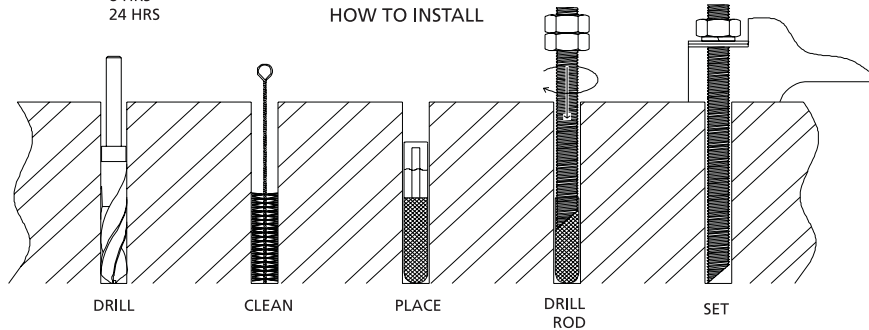

Figure 2-2 Anchor Stud Installation
- 4) Bolt the VMC directly to the pad through the .953" diameter holes that are provided in the base casting. The dimensions for the base mounting holes of all machines are in the VMC Specifications section. Anchors are to be installed as shown below in Figure 2-2. For high performance machines, the machine must be bolted to achieve maximum performance.